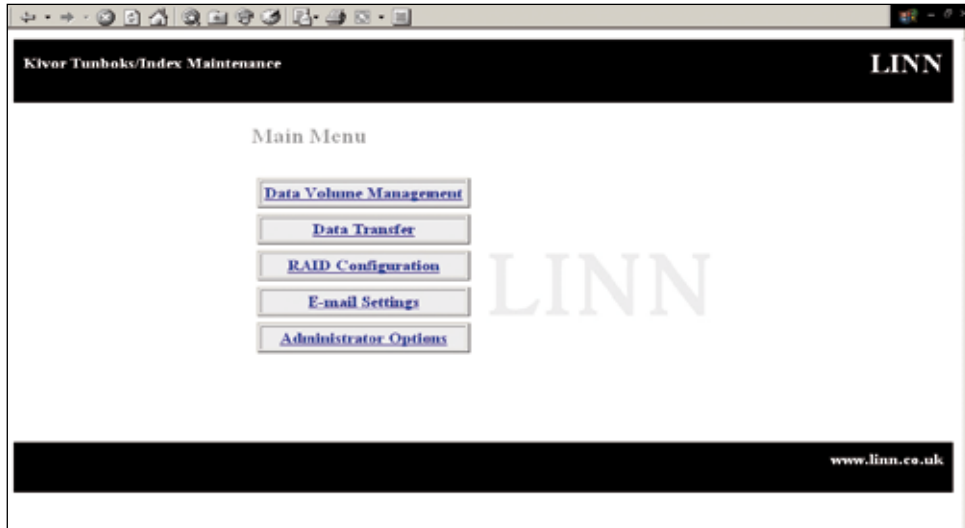

Fig. 3 - KIVOR Web Interface
2. Open Internet Explorer or a web browser on a PC connected to the same network as the KIVOR. Within the browser address bar type the IP address of the KIVOR and press **Return** to open the KIVOR web interface (see fig. 3).